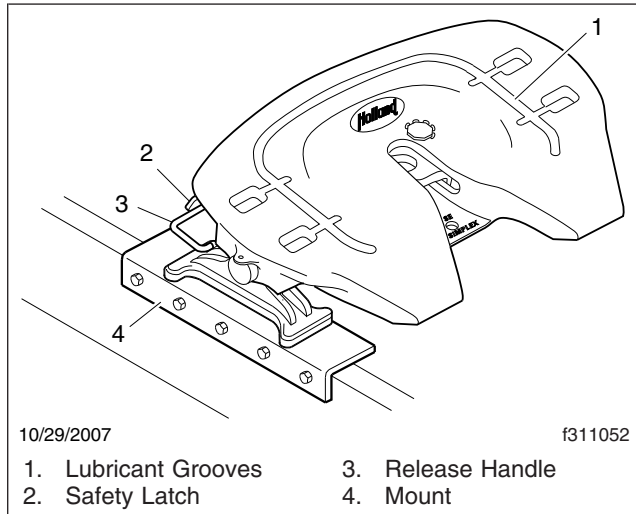

Fig. 2, Holland FWS1 Fifth Wheel
4. When the wheel is locked, the safety latch must swing free and fall freely into position. See Fig. 2.